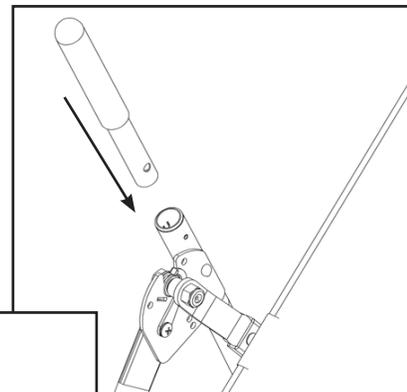

Figure 16
- Insert the Handles into the A-frame (Figure 16).